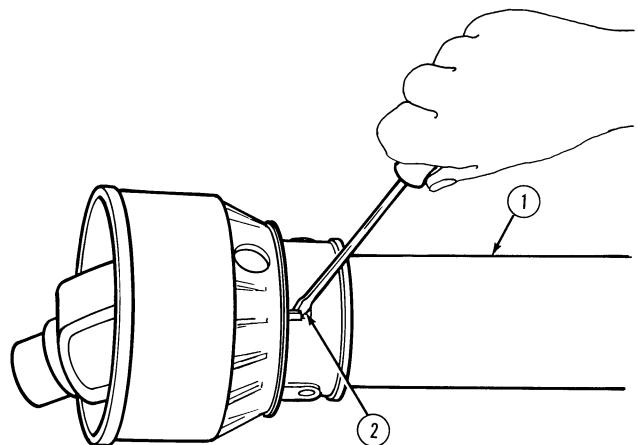
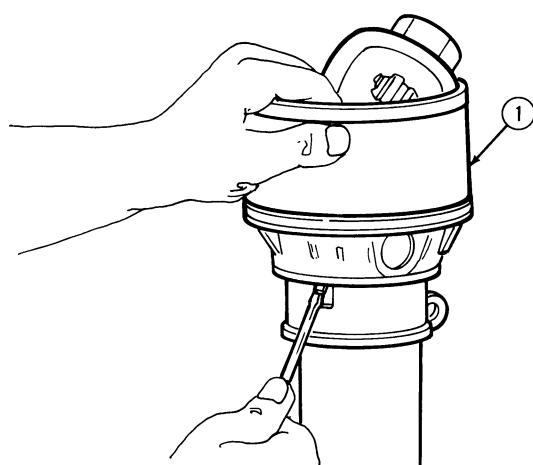
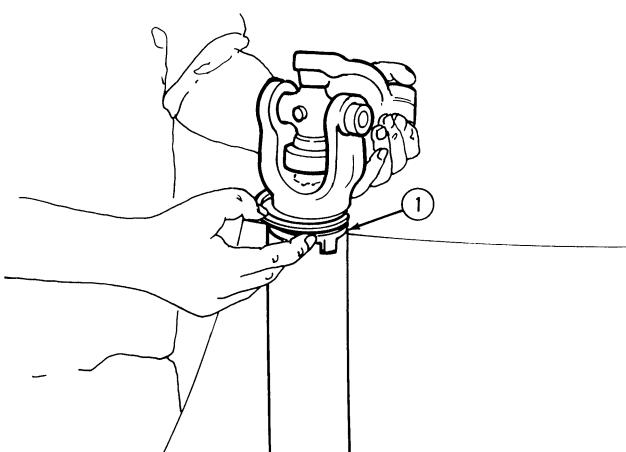

Figure 1
Figure 2
Figure 3
1. Remove the rotating shield (1), Figure 1, by removing the locking screw (2) and aligning the bearing tabs with the cone pockets. Remove the half guard (1), Figure 2, and bearing ring (1), Figure 3. Examine the shaft for dents or gauling in the area of the slip joint. If a dent or evidence
- Install the bearing ring (1), Figure 3. Install the half guard and retaining screw.